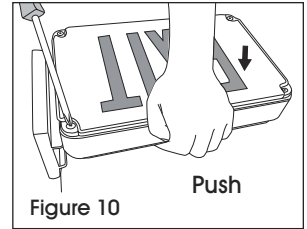

Figure 10
- Secure faceplate(s) to frame with screws. (See Figure 10)